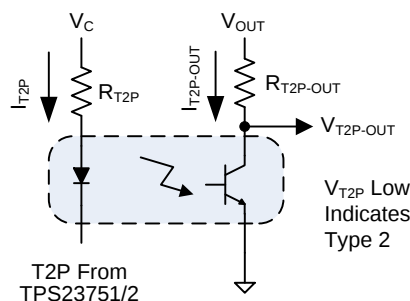

Figure 35. T2P Interface
- As shown in Figure 35, let $V_{\text{C}} = 12 \text{ V}$, $V_{\text{OUT}} = 5 \text{ V}$, $R_{\text{T2P-OUT}} = 10 \text{ k}\Omega$, $V_{\text{T2P}} = 260 \text{ mV}$, $V_{\text{T2P-OUT}} = 400 \text{ mV}$.